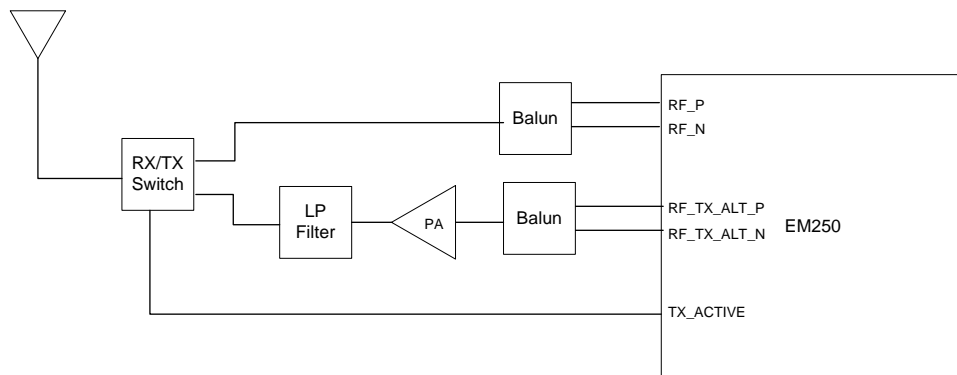

Figure 15. Block diagram of an EM250 with a PA
As previously stated, an external power amplifier (PA) can be added to an EM250-based design to extend the overall communication range. The EM250 contains a dedicated TX port (RF_TX_ALT_P/N) to allow easy connection to an external PA. Figure 15 illustrates a block diagram for the external PA connection.
As shown in Figure 15, there are dedicated TX and RX signal paths to the EM250. The TX path contains the external power amplifier as well as the harmonic filter. Each path contains an RF balun. The balun can be either the lattice or the ceramic balun as described in the RF balun (BLN1, L1, L2, L4, L5, R6, C11, C22, and C23) section. It is important for the designer to use the appropriate balun for their performance and cost requirements.